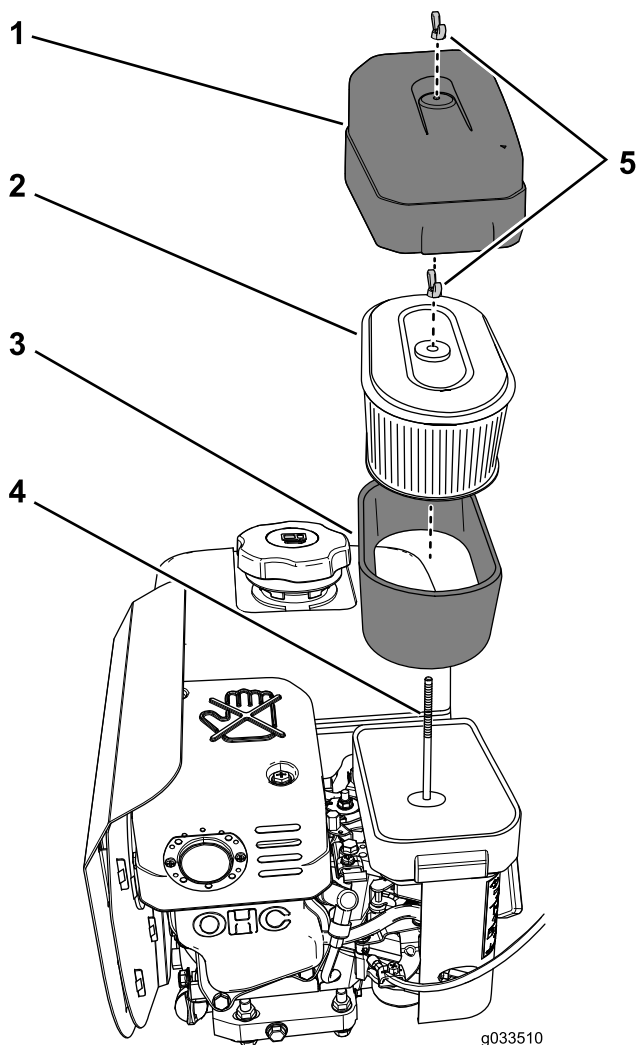

Figure 6
2. Clean around the air cleaner to prevent dirt from getting into the engine and causing damage (Figure 6).
remove the filter elements from the hold-down rod (Figure 6).
5. Carefully pull the foam element off the paper element (Figure 6).
1. Inspect the element for tears, an oily film, or damaged (Figure 6).
1. Carefully slide the foam-filter element onto the paper-filter element (Figure 6).
2. Align the hole in the top plate of the paper-filter element with the hold-down rod of the carburetor (Figure 6).
3. Secure the filter elements to the carburetor with the wing nut (Figure 6) that you removed in step 4 of Removing the Foam and Paper Elements \(page 6\).
4. Align the hole in the air-cleaner cover with the hold-down rod (Figure 6) and secure the cover to the rod with the wing nut that you removed in step 3 of Removing the Foam and Paper Elements \(page 6\).
3. Rotate the wing nut that secures the air-cleaner cover counterclockwise and remove the air-cleaner cover (Figure 6).